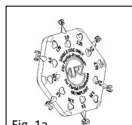
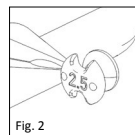

Fig. 1a
Fig. 2
■ **Fig. 1a, 1b/2** The sizer disk for partial prostheses has six individual satelliteshaped sizers of different lengths (2.0-4.5 mm) (Fig. 1a, 1b). The relevant length is marked on the back of each sizer (Fig. 2). The cutouts and holes are designed to reduce the weight and to provide a clearer view when conducting measurements in the middle ear.